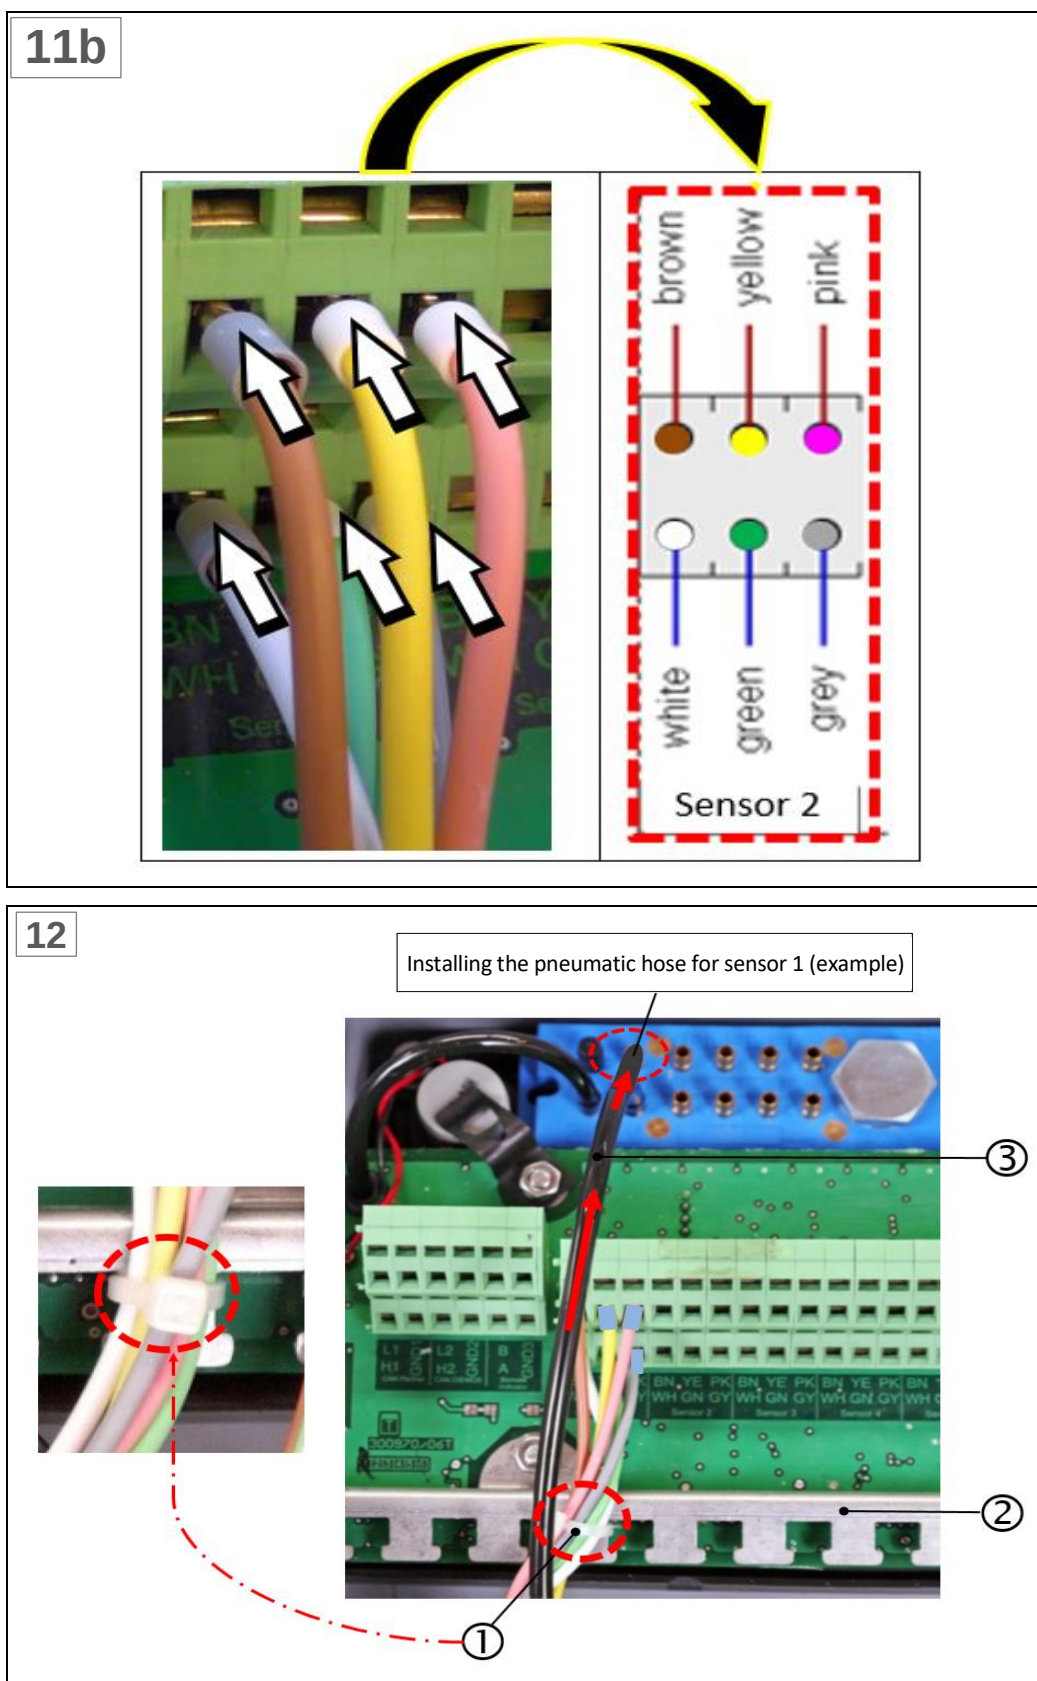

Fig.: 10 : Installation with crimping method of hybrid cable, VN301^{plus} central unit (steps 11 - 12)
- ▶ The pneumatic hose [③] must not be fixed to the cable tie retaining plate or similar using cable ties. (Fig. 10)